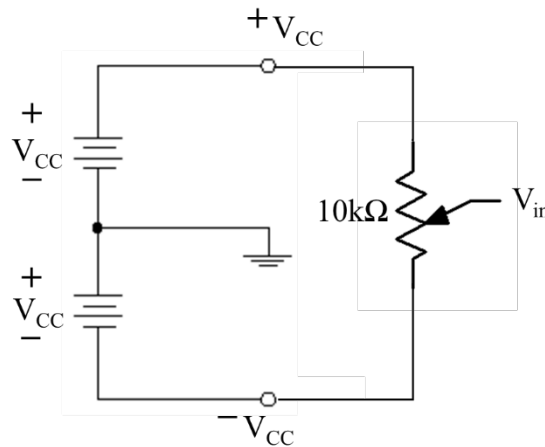

Figure 2-5 Signal source configuration (V_{in})
2. Connect $+V_{CC}$ and $-V_{CC}$ to a potentiometer as shown in Figure 2-5. This will provide a variable-output DC signal source ranging from $-V_{CC}$ to $+V_{CC}$, for input to the op-amp circuit.